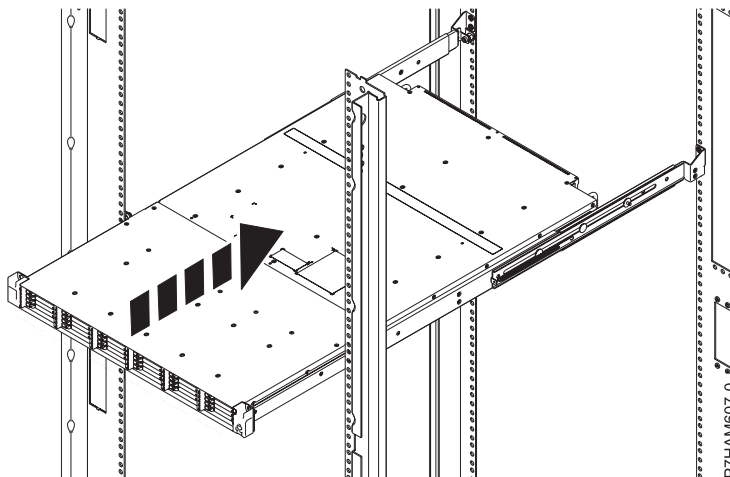

Figure 14. Sliding the disk drive enclosure into the rack
- d. When the chassis bracket guides are firmly seated on both sides of the enclosure, slide the enclosure gently into the rack cabinet, as shown in Figure 14.